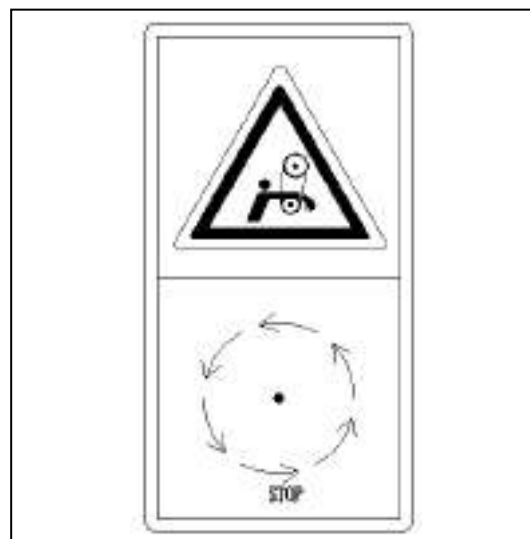

Figure 1-25 Sign for stopping spinning
(24) Stop spinning while detecting and adjusting, as shown in Figure 1-25.